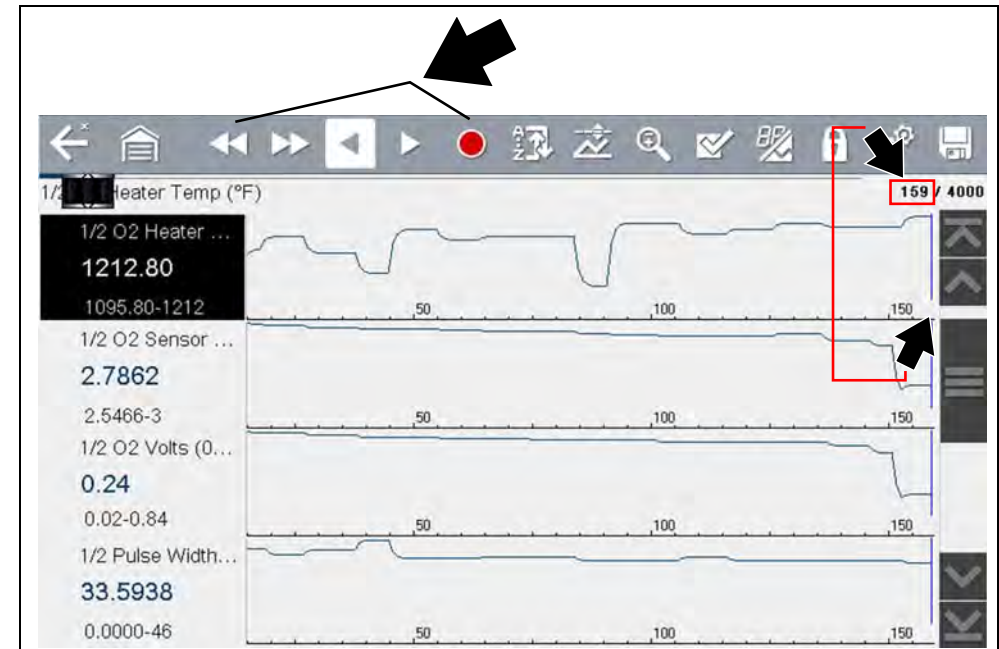

Figure 5-32
- Review control icons are displayed in the toolbar (Figure 5-32). Use the control icons to accurately move through the data and position the blue cursor.
- The blue (vertical cursor) (Figure 5-32) indicates your position in the data and is denoted by the current position value in the counter display. This cursor displays in all PIDs.